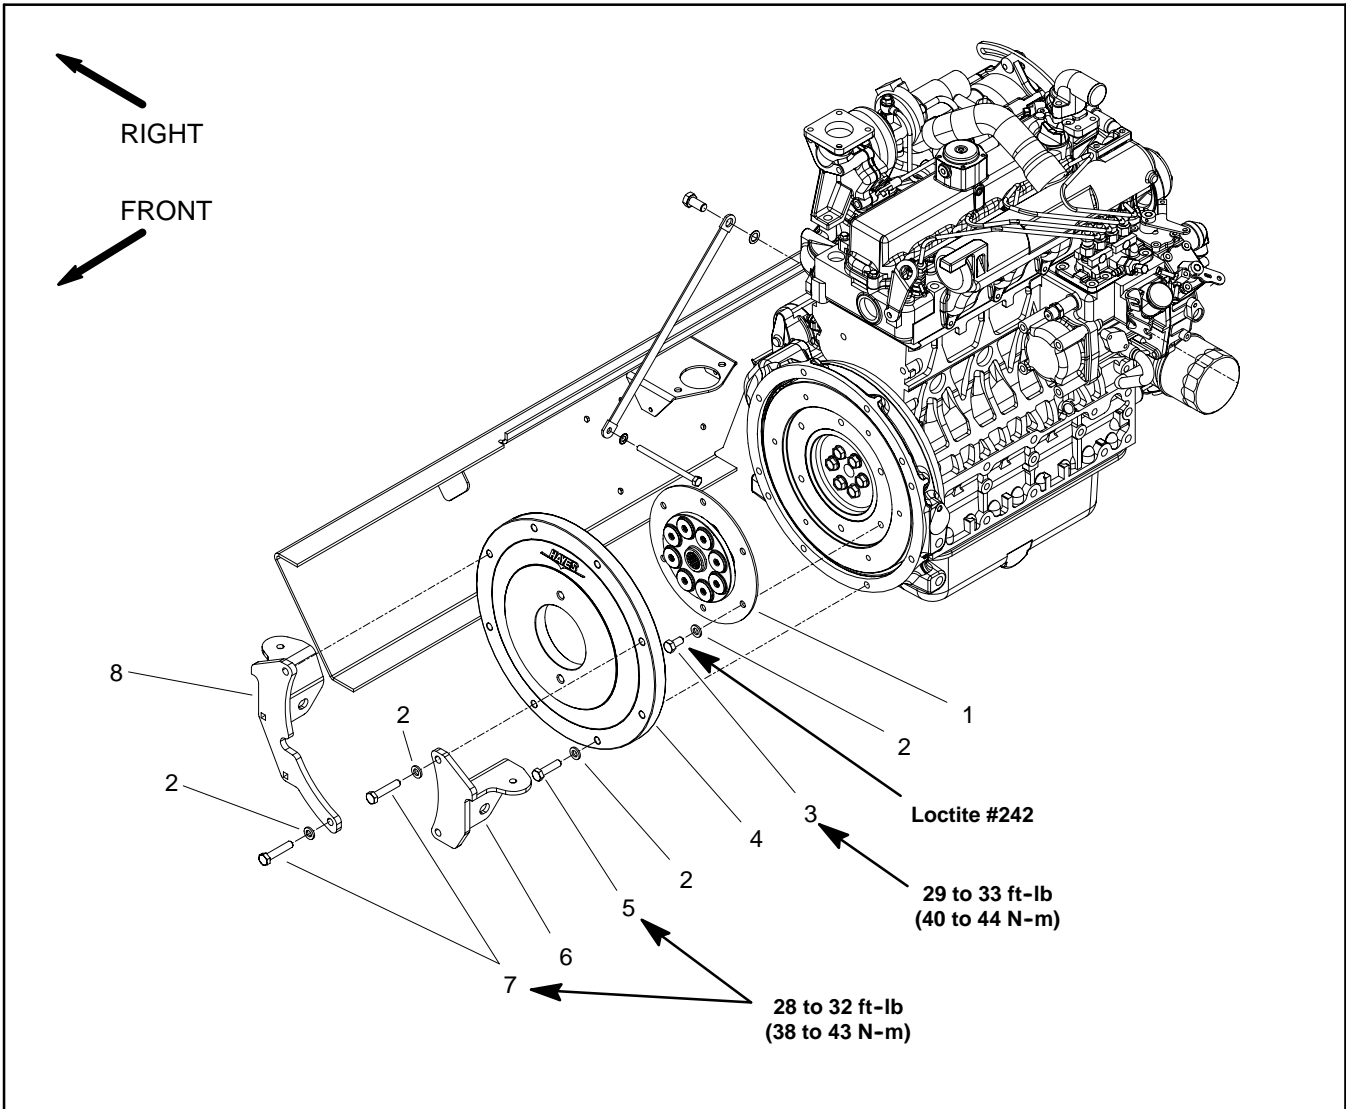

Figure 16
Coupler Removal (Fig. 16)
2. Remove flywheel plate and spring coupler from engine using Figure 16 as a guide.
Coupler Installation (Fig. 16)